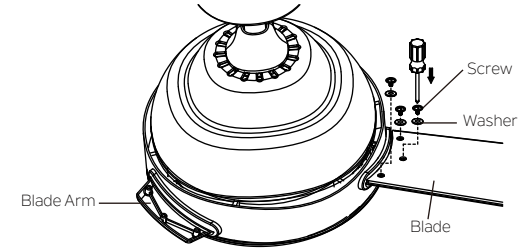

Fig. 20
**Step 1.** Position the blade over the blade arm with threaded posts showing. Make sure the bottom edge of the blade is fully seated against the blade arm. With a Phillips screwdriver, start a blade screw and washer into the blade arm (do not tighten) and repeat for the 2 remaining blade screws and washers. Tighten each screw securely starting with the center screw. Make sure the blade is straight. Repeat steps for the remaining blades. (Fig. 20)